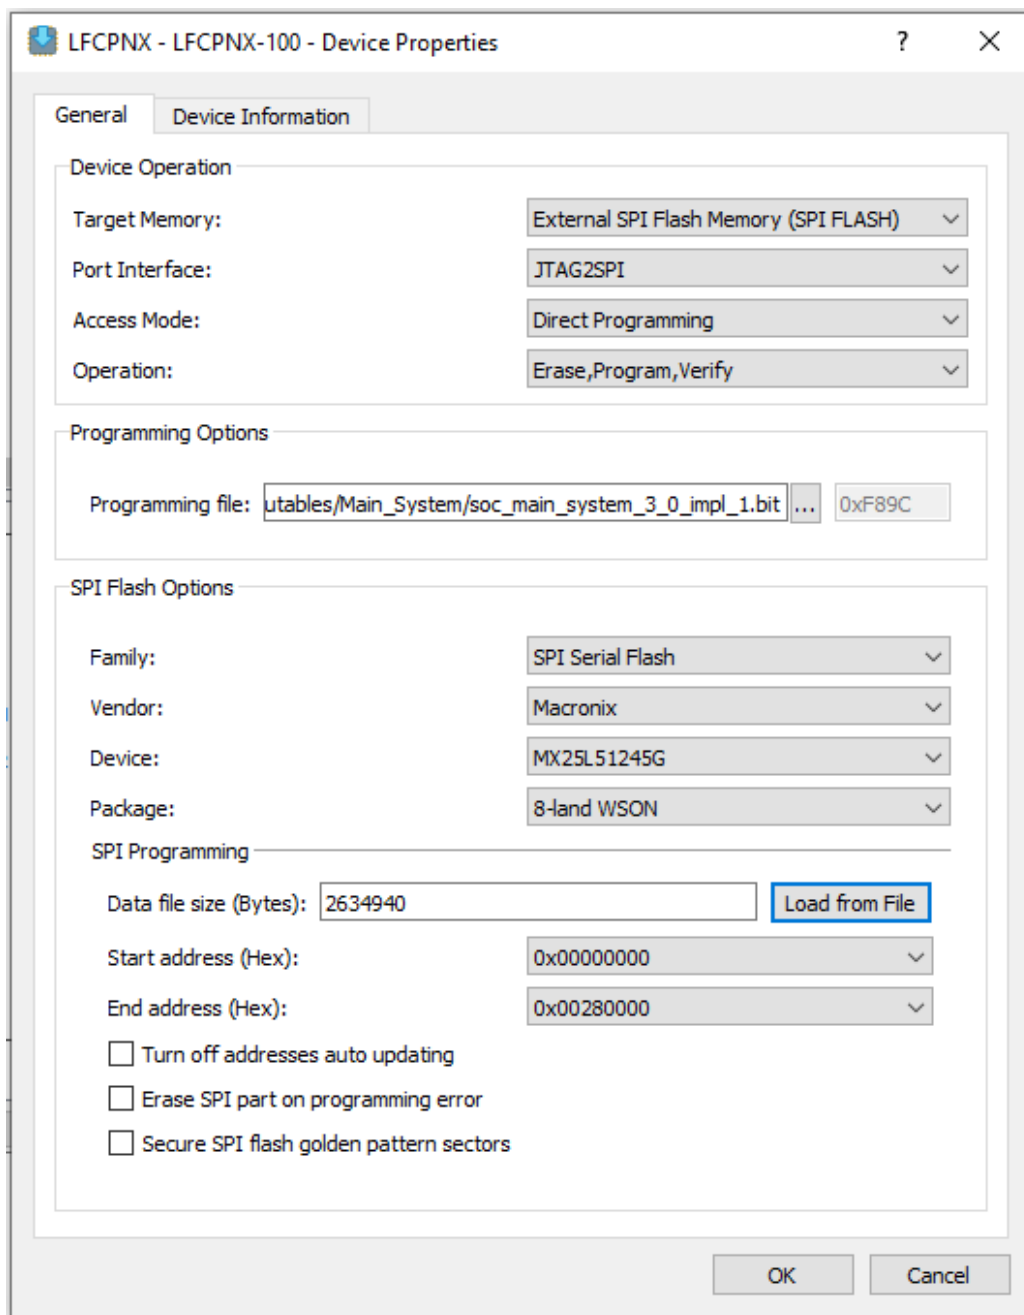

Figure B.7. Radiant Programmer - Bitstream Flashing Settings (Main System)
9. To program the **bitstream file**, select the options as shown in Figure B.7.